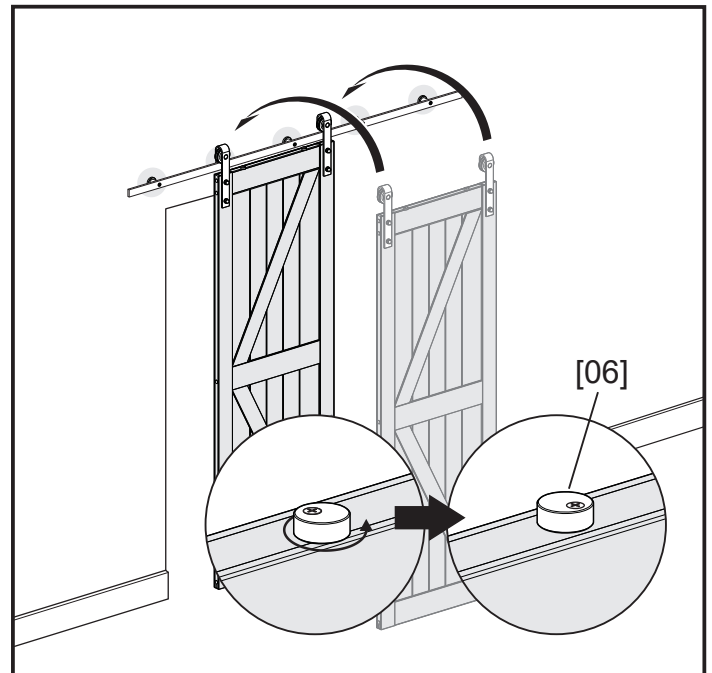

Fig 11
2. Slide door back and forth to test how well the door covers the opening. (Fig 11)